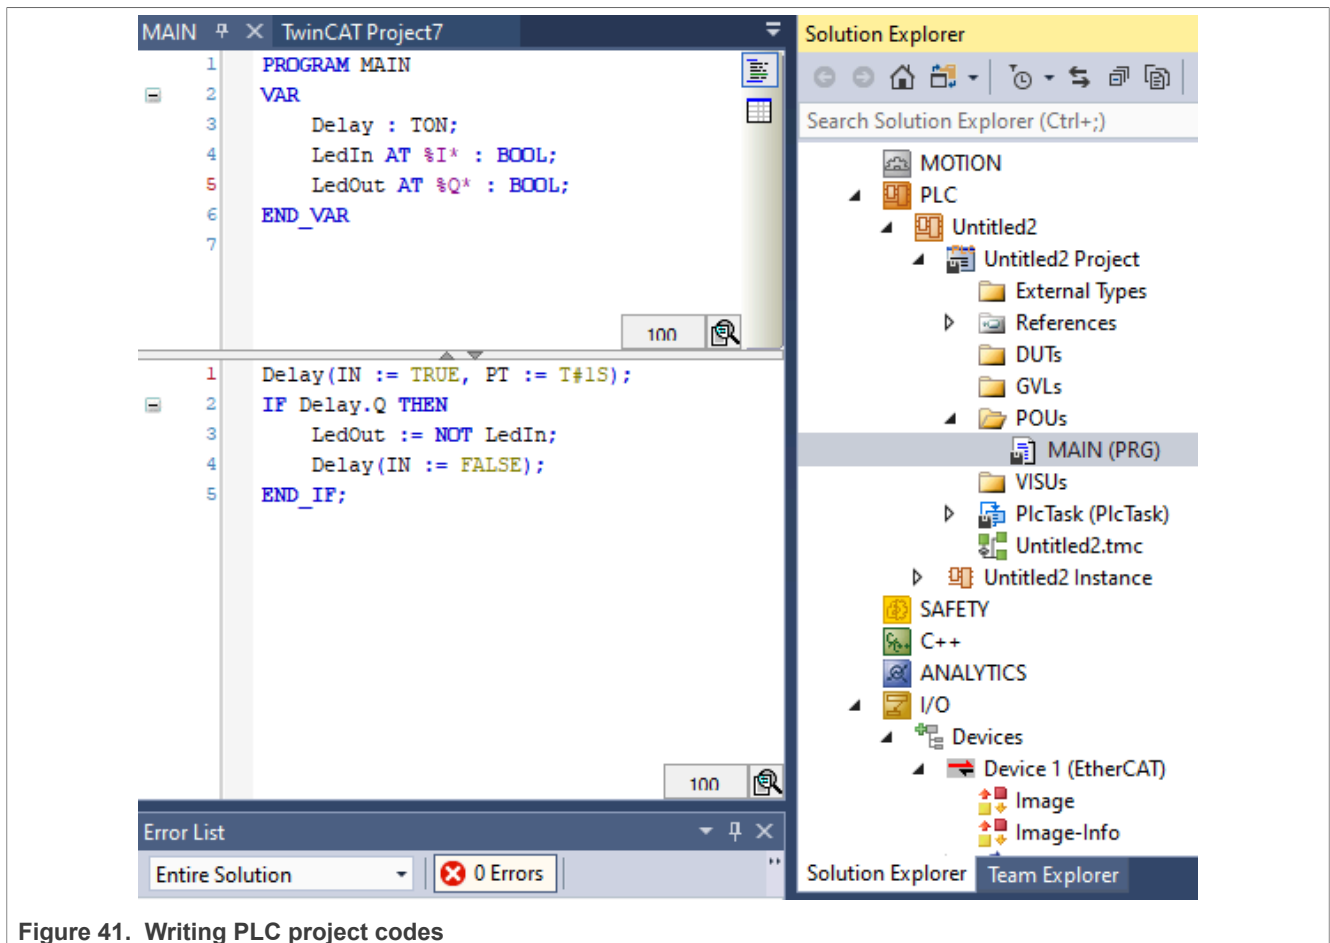

Figure 41. Writing PLC project codes
3. Write PLC related codes as shown in Figure 41.